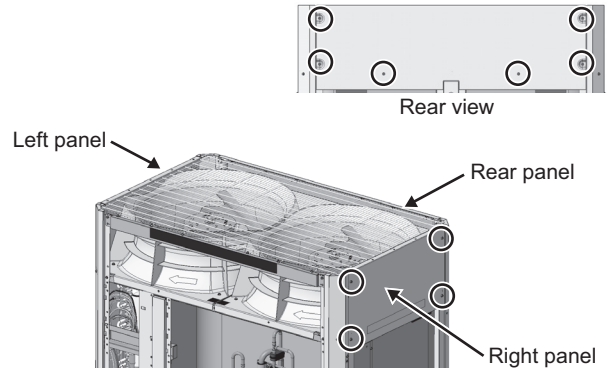

Fig. 58
(5) Remove the top panel except the front panel. (Four screws on the left and right each, and six screws on the rear: Fig. 58)